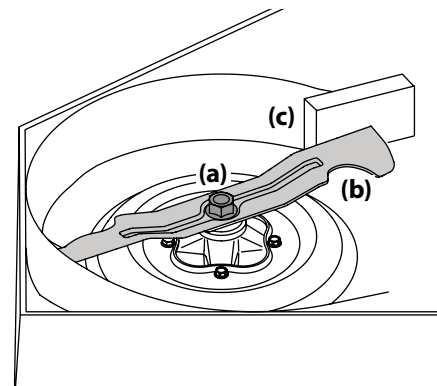

Figure 4-18
2. Use a $\frac{15}{16}$ " wrench to hold the hex nut on top of the spindle assembly when loosening the hex nut (a) securing the blade (b). A block of wood (c) may be placed between the deck housing and the cutting edge of the blade (b) to help in breaking loose the hex nut (a) securing the blade. See Figure 4-18.